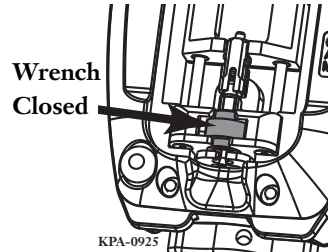

Figure 60 — Wrench in Starting Position
- Wrench is closed as seen in Figure 60.